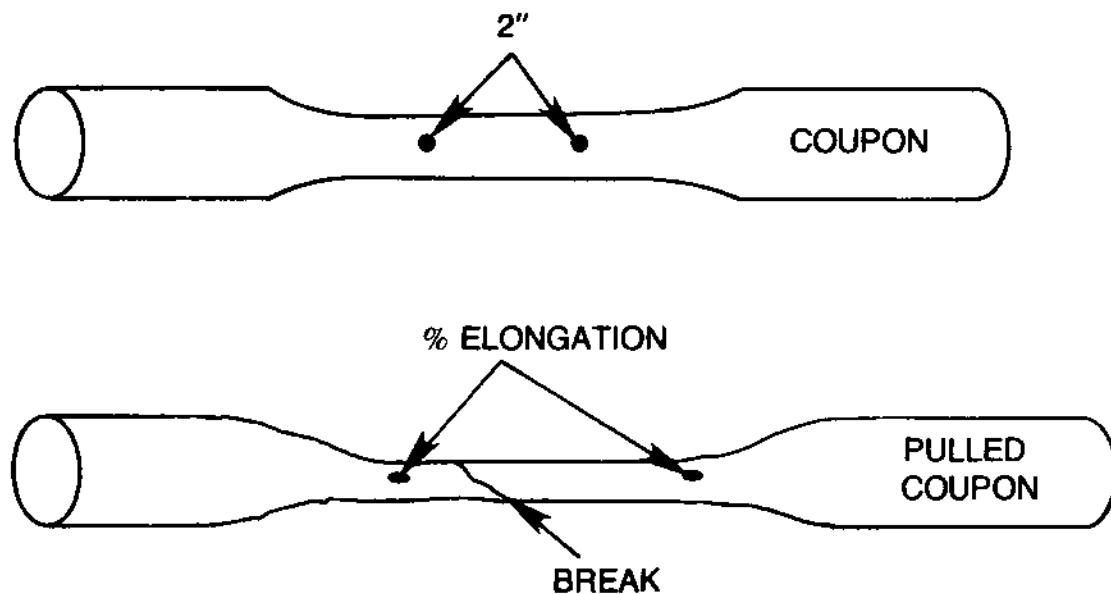

FIGURE E.1
**elongation** The amount of extension in the vicinity of the fracture in the tensile test. It is expressed in percents of the standard gauge length of 2 inches (Fig. E-1). The coupon sample used to test the tensile strength is first marked off with two center punch marks 2 inches apart. The coupon is pulled (stretched) until it breaks on the tensile strength machine, giving the tensile strength. The two ends of the sample are then fitted together at the point of fracture and the distance between the punch marks measured to determine the percent of elongation.